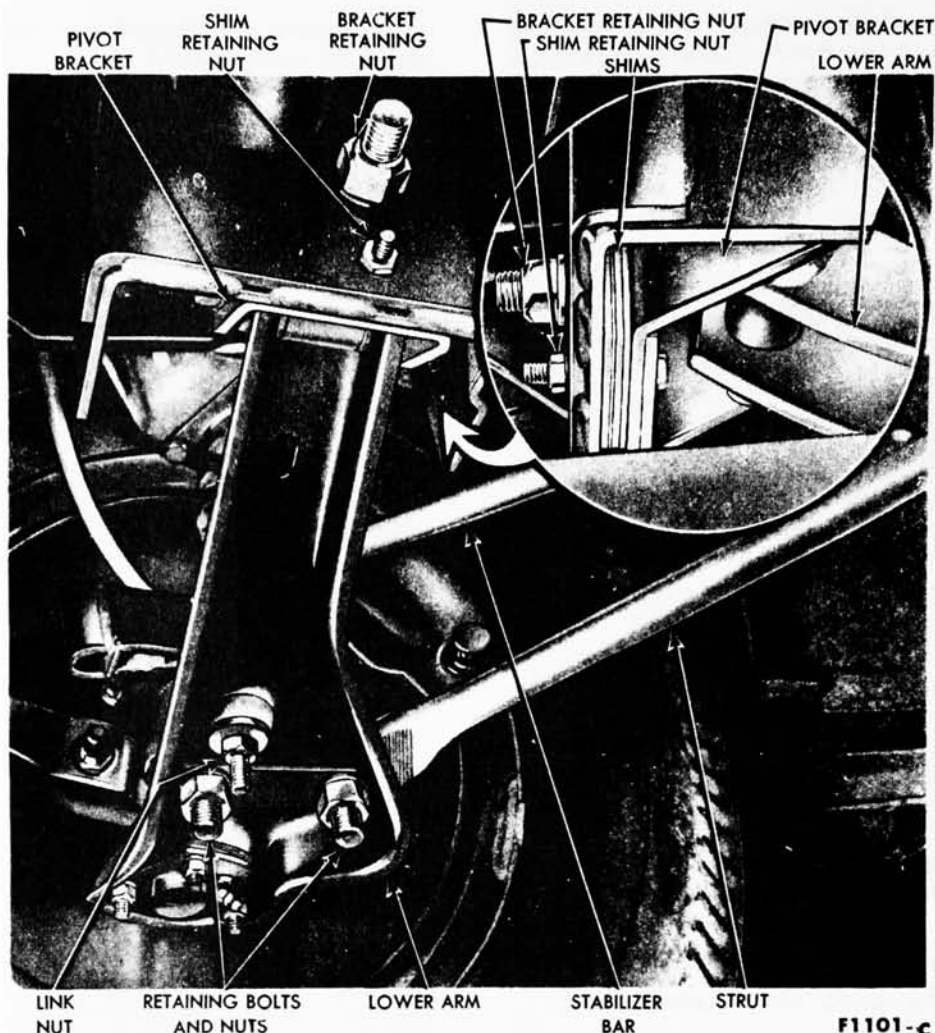

FIG. 9—Suspension Lower Arm Installed
6. Remove the link nut underneath the arm (Fig. 9), and disconnect the stabilizer link from the arm.
7. Remove the attaching nuts, bolts, washers and plates, and disconnect the strut from the lower arm (Fig. 9).
10. Remove the pivot bracket retaining nut and the shim retaining nut (Fig. 9), then remove the bracket and lower arm assembly from the car.
to the chassis mounting bracket (Fig. 9). Install the pivot bracket and shim retaining nuts.
4. Position and connect the lower arm strut to the lower suspension arm with retaining plates, bolts, washers, and nuts (Fig. 9). Torque the nuts.